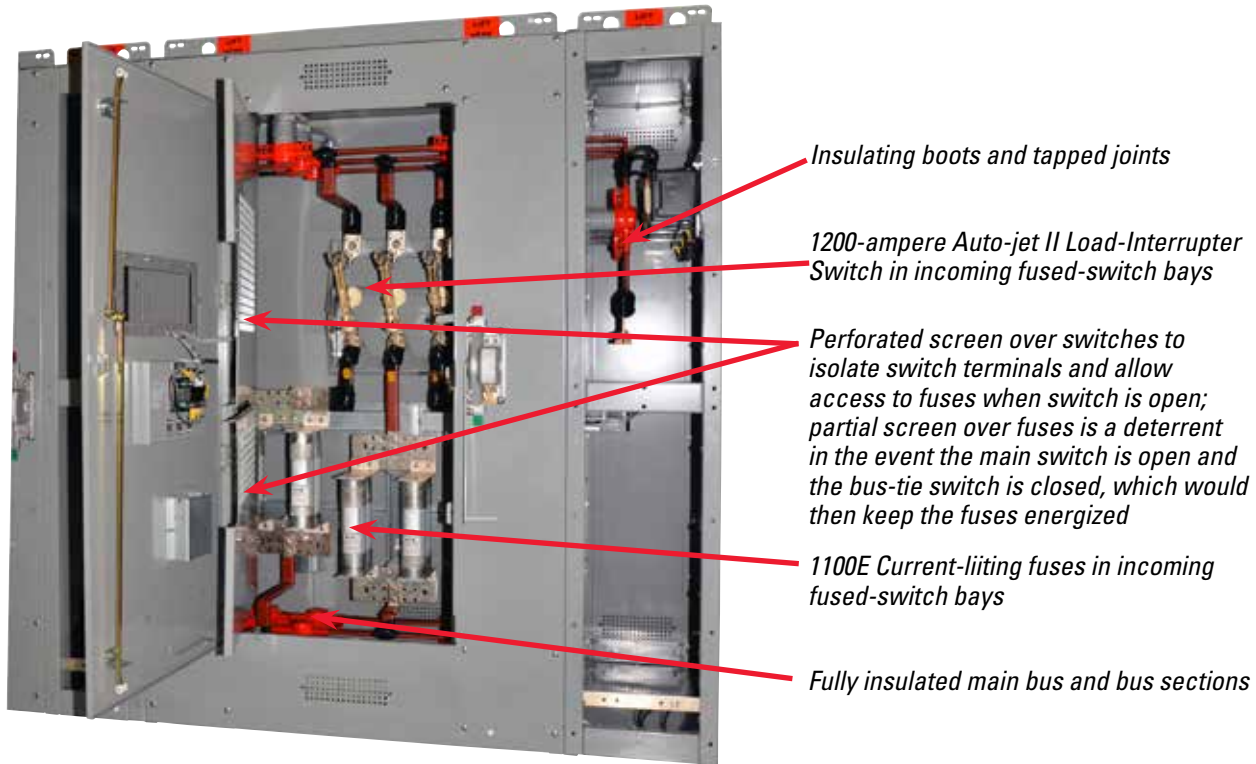

Figure 5. Bay 1 has a 1200-ampere load-interrupter switch and a set of three (3) paralleled current-limiting fuses rated to 1100E amperes.
compatible with the Federal Pacific 1200 ampere Auto-jet® II Load-Interrupter Switches – both of these components match to the 1200-amp main bus. See Figure 5.
*Figure 3. Bay 1 (at right in photo above) is typical incoming termination compartment with VTs and CTs (also see Figures 5, 6 and 7) providing output to power monitoring meter in door of Bay 2 (see meter in inset at right).*